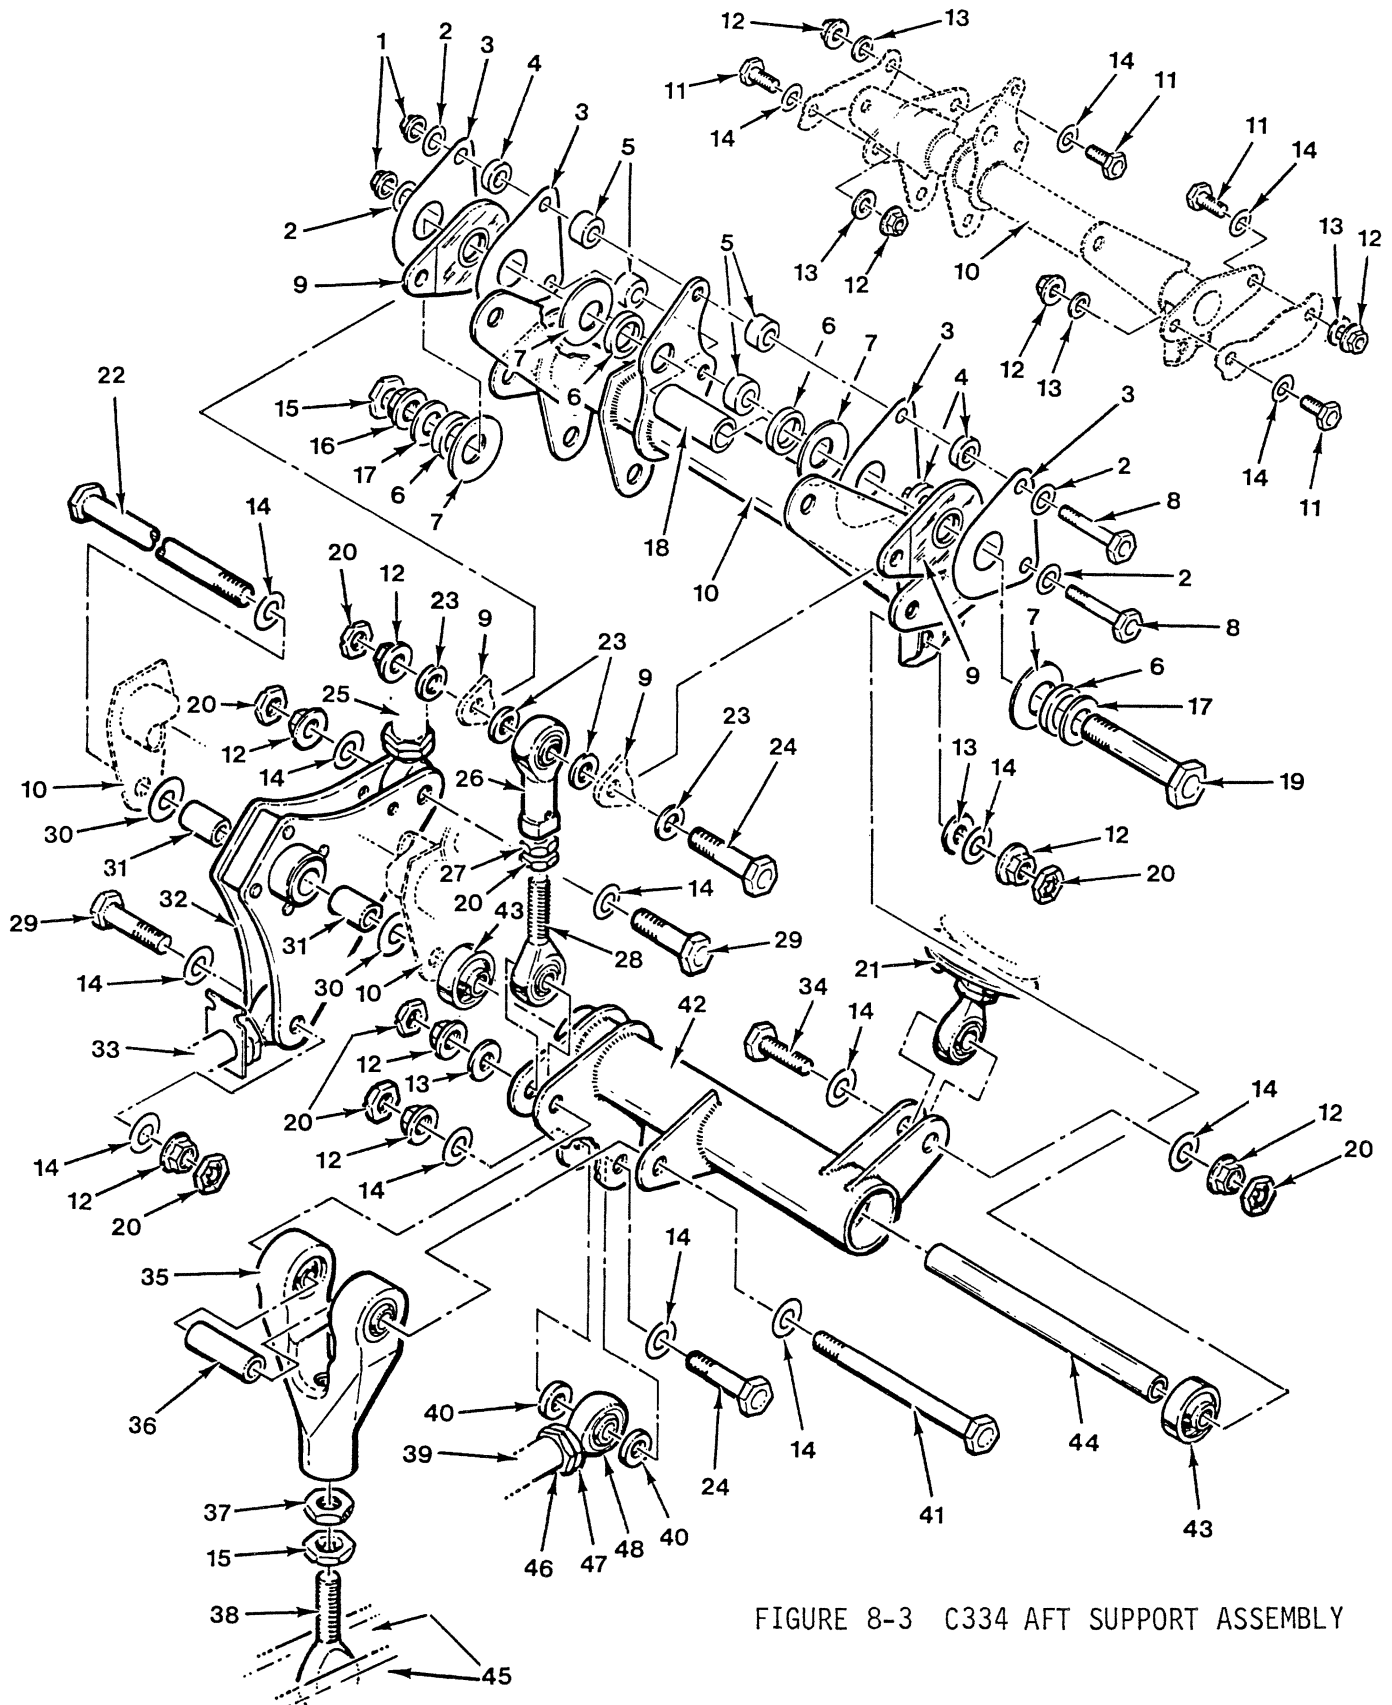

FIGURE 8-3 C334 AFT SUPPORT ASSEMBLY
- b) Connect A205-5 fork assembly to C326-7 bellcrank per Figure 8-3 and torque.